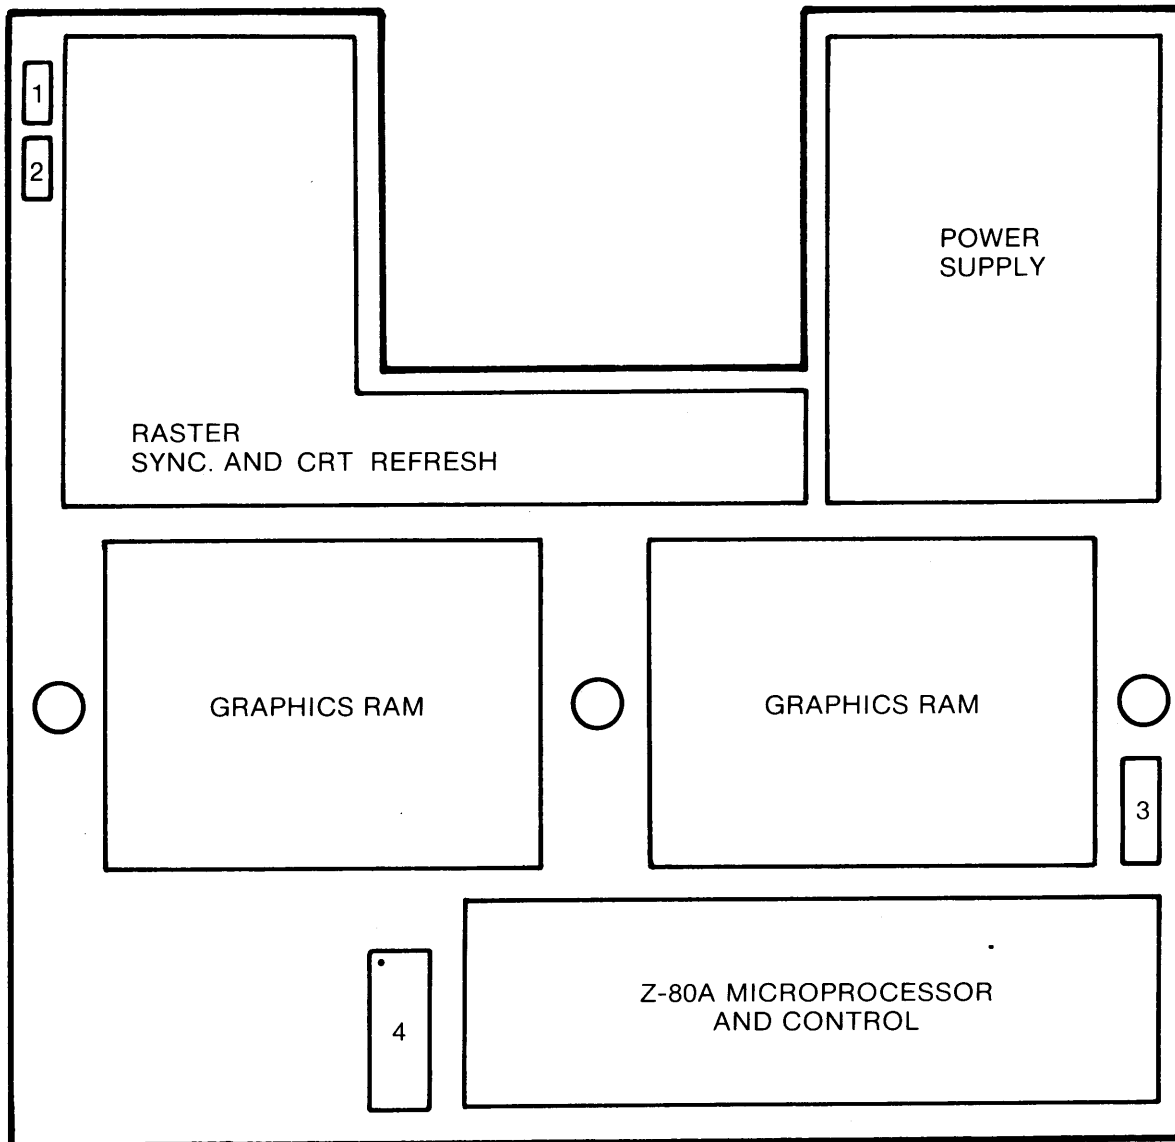
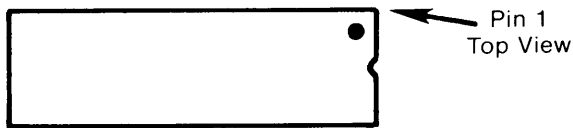
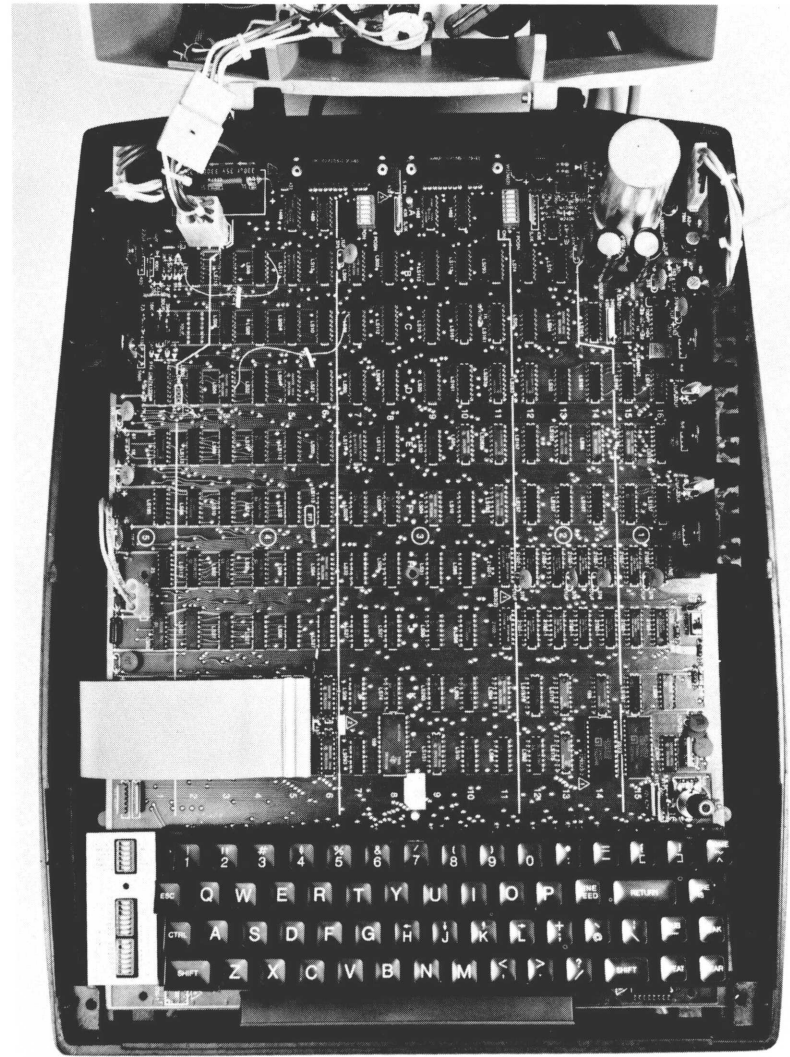

Figure 2-1: Circuit Locations on the RG-512 Card
Figure 3-5: UART DIP Package Showing Pin 1 Location
Figure 3-4
All circuitry for the RG-512 is packaged on a single 12" by 12.31" printed circuit card. This circuitry consists of four functional elements: Z-80A microprocessor and control, 128,000 bit graphics RAM, raster synchronization and CRT refresh, and power supply. Figure 2-1 illustrates the arrangement of this circuitry on the RG-512 printed circuit card.
5. Remove the 40 pin DIP plug from the 40 DIP socket on the RG-512. Transfer the socketed UART from the electronics card (Figure 3-4) to the RG-512 card (Figure 2-1). Care must be taken when handling the UART since static electricity can damage it. Observe the location of pin 1 when installing the UART (notch in the DIP package) (see Figure 3-5).
7. Lay the ADM-3A electronics card back in the base, lining up with the guide pins. Working clockwise around the base, make the following connections to the electronics card: connect the beeper cable, the 3-circuit AC power cable, the Video cable, and the 5-circuit AC power cable. Then connect the monitor cable from the upper housing to the remaining plug on the Video cable. Install the 40 pin DIP plug into the vacated UART socket on the ADM-3A electronics card. Verify all connections by referring to Figure 3-4.